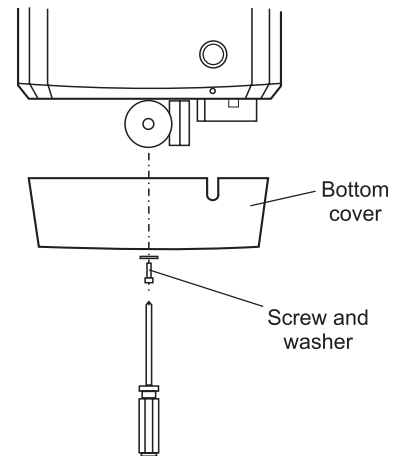

Fig. 17
1. Gain access to the electrical control box of the solar cylinder by removing the screw and washer securing the bottom cover and remove the cover. See Fig. 17.